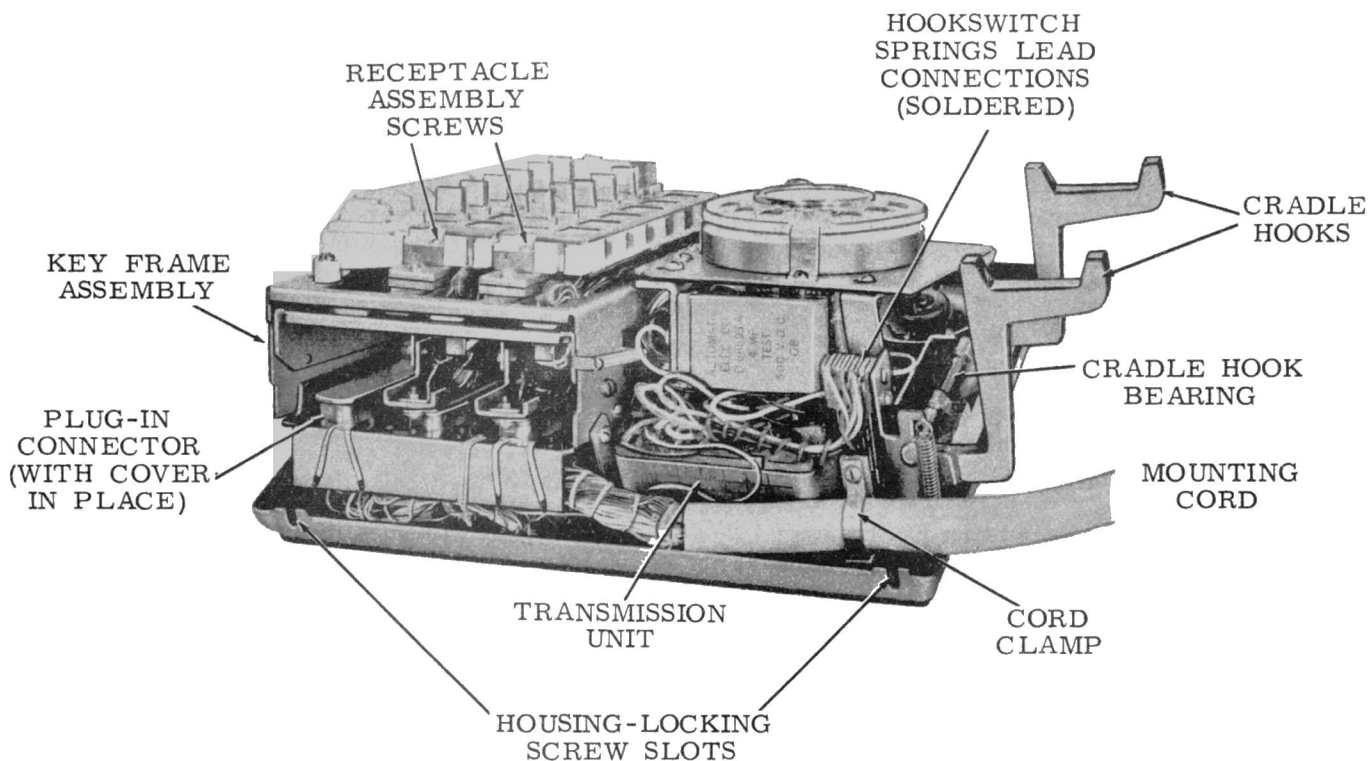
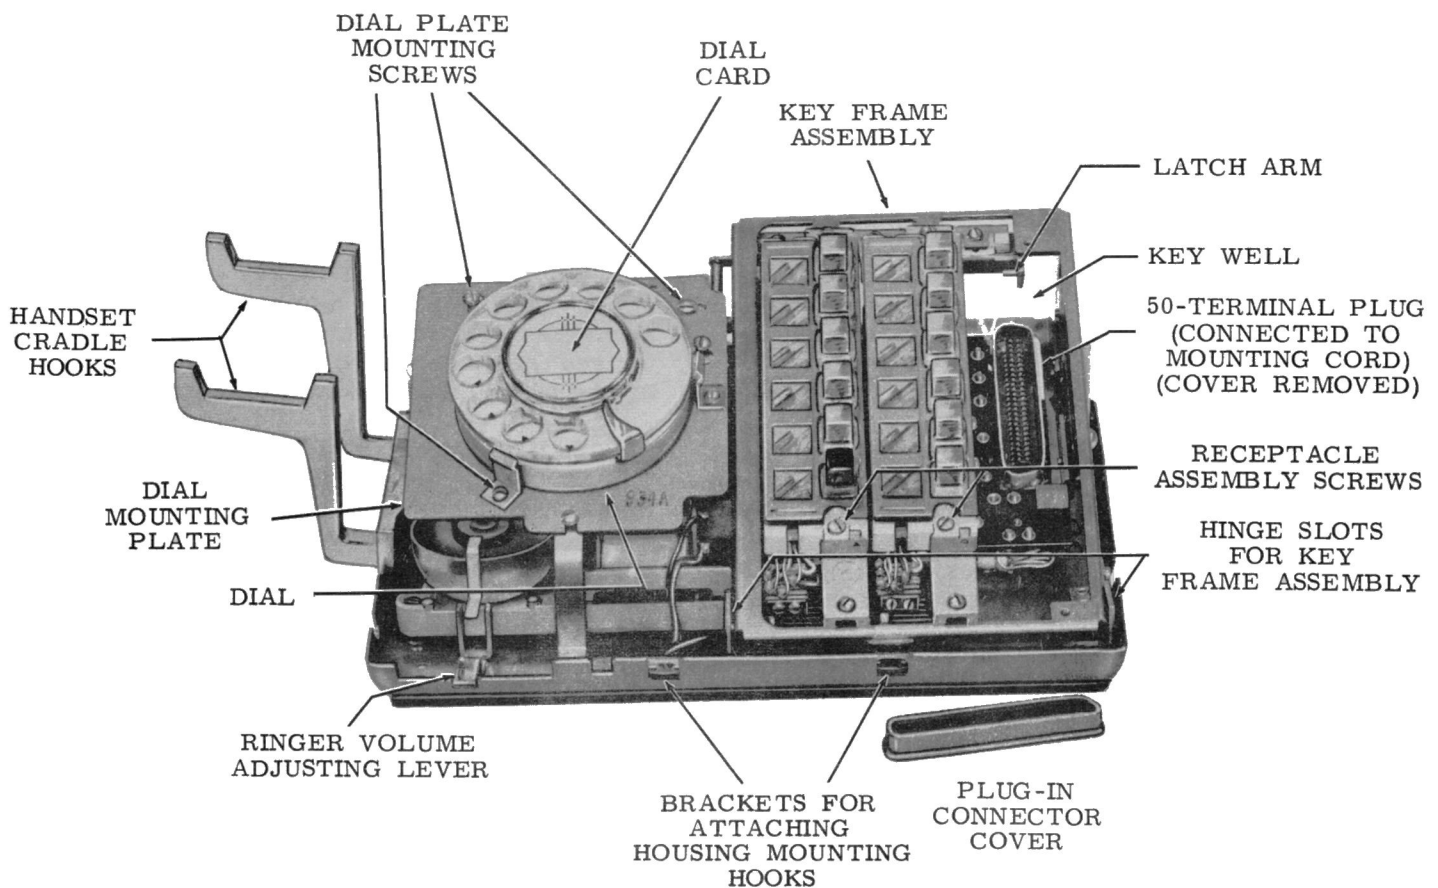
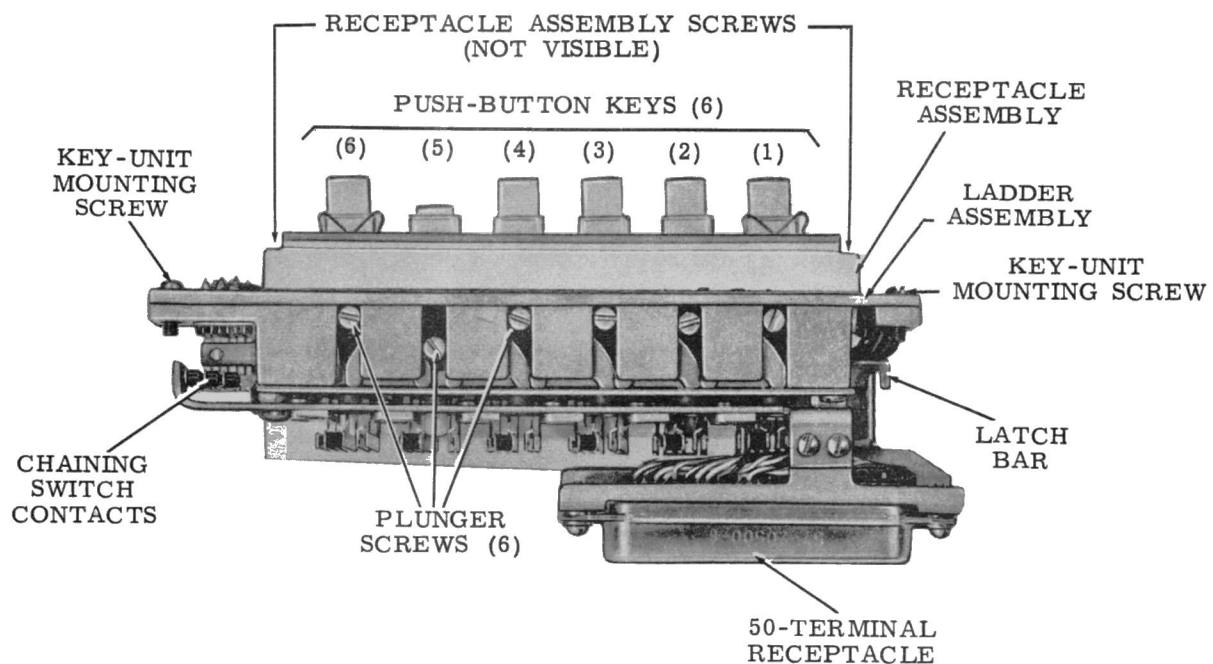
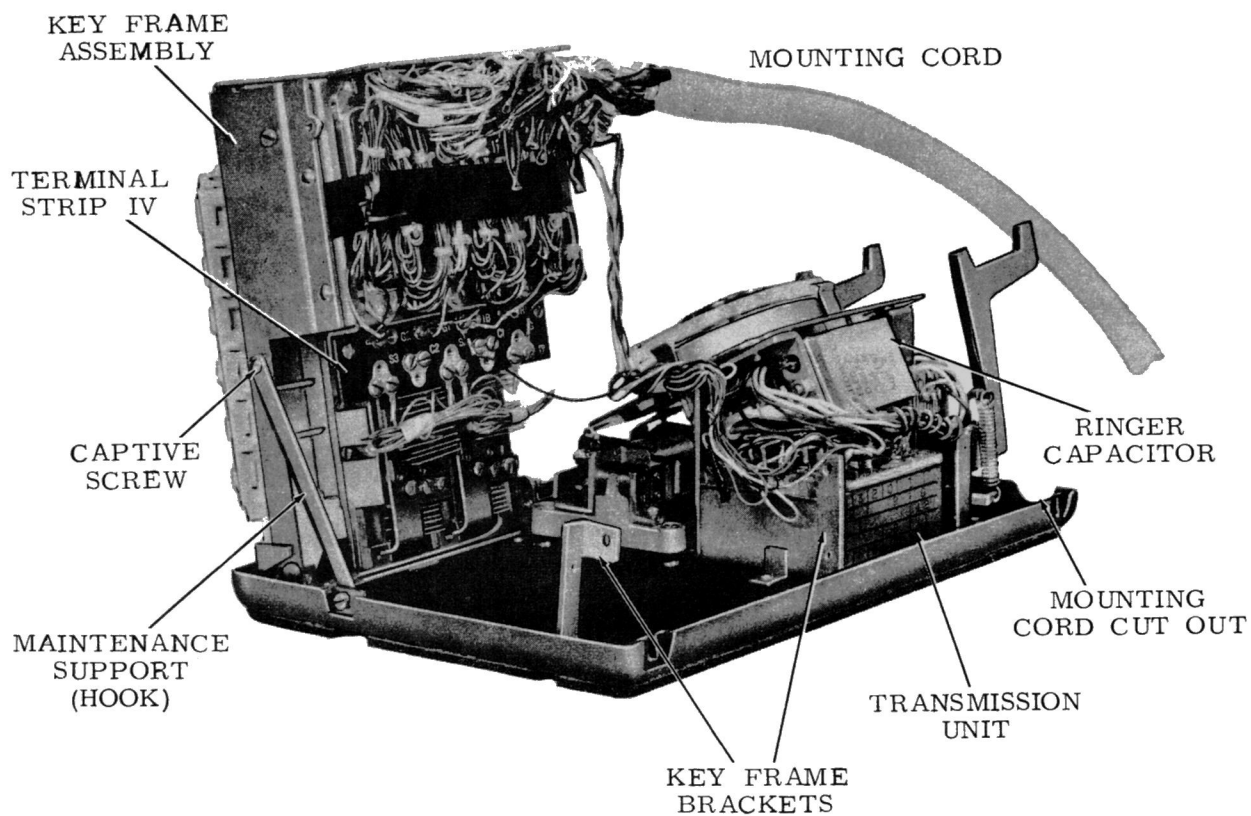

Figure 2. Rear view of type 860A key telephone.
Figure 4. Type 860A with key blank and cover of plug-in connector removed (ready for installation of third key-strip unit).
Figure 5. Key-strip unit (6-key) showing six line pick-up keys (D-59307-A).
Figure 6. Elevated rear view of the type 860A.
Each of the six-key, key-strip units (figure 6) include a 50-terminal receptacle by means of which all of the connections to the key-strip unit are made; no soldered connections or other wiring are needed. These receptacles connect directly into 50-terminal plugs which are secured to the key frame assembly (see figure 4). There are three such plugs, one for each key-strip unit or position. Not all terminals on each plug are used.
and stored for possible future use with optional or additional features (figure 6).
2.1.1 Gently lift off the clear plastic face plates and the colored face mat over the dial and keys. Next remove the key telephone housing by loosening the two rear housing lock screws (figure 2) and lifting the rear of the housing; move the housing forward to disengage the housing mounting hooks at the front of the unit (figure 4).
Remove the screws from the left and right key frame brackets (figure 6). Raise the rear of the key frame assembly, and support it in this position using the maintenance hook or support. The terminal strips, on the underside of the attached mounting cord frame, are now accessible.
A 6-key, key-strip unit (D-59307-A: figure 5), identical to that used in the second vertical row or position, may be substituted for the white plastic key-strip blank furnished in the third vertical position if more than 12 push-button keys are required. The operations involved in converting a key-strip blank to a key-strip unit are as follows. A medium-sized screw driver and the key-strip unit are needed for this conversion.
2.2.2 Lower the key-strip unit, rear end first, into the key well provided for it in the key frame (figure 4). Slide the unit toward the rear of the well until its forward end clears the frame. Engage the latch arm and the receptacle (both in the key frame assembly) with the latch bar and the plug, respectively, at the rear of the key-strip unit. Press the unit firmly into place in the well and tighten the mounting screws at the top and bottom of the key frame. The key-strip unit should now be tested to see that the individual keys will lock operated when depressed. When satisfied
2.3.1 Remove the key telephone housing as in section 2.1.1; loosen the two receptacle assembly screws (figures 2 and 4) on the key-strip unit in which are located the key or keys to be blocked. Lift the receptacle assembly (figure 5) off the ladder assembly, exposing the 6 key shafts. Holding the receptacle assembly upside down, remove the retaining strip and place the blocking rings inside the push-button collars of the keys to be blocked.
If the HOLD key (section 1.4.2) is not required, the key-strip unit in which it is located can be replaced with a 6-line pick-up key unit (figure 5); individual keys cannot be replaced. A medium-sized screw driver and the 6-line, pick-up key-strip unit (D-59307-A) are needed for this conversion.
2.5.1 Remove the key telephone housing as in section 2.1.1, and loosen the two mounting screws at either end of the key-strip unit in which the keys to be converted are located. Raise the unit out of the key well in the key frame assembly. Remove the plunger screw (figure 5) from each line pick-up key that is to be converted to signal use. Then replace the unit back in the key well, being sure to engage the latch arm and the receptacle in the key frame assembly with the latch bar and plug on the unit. Press the unit firmly into place and tighten the two mounting screws. Test each converted push button to be sure that it will not lock when depressed, nor release any locked-operated line pick-up keys.
2.6.1 Remove the key telephone housing as in section 2.1.1; loosen the three dial mounting plate screws (figure 4). Move the dial assembly toward the rear of the unit and lift it clear, exposing the transmission pot.